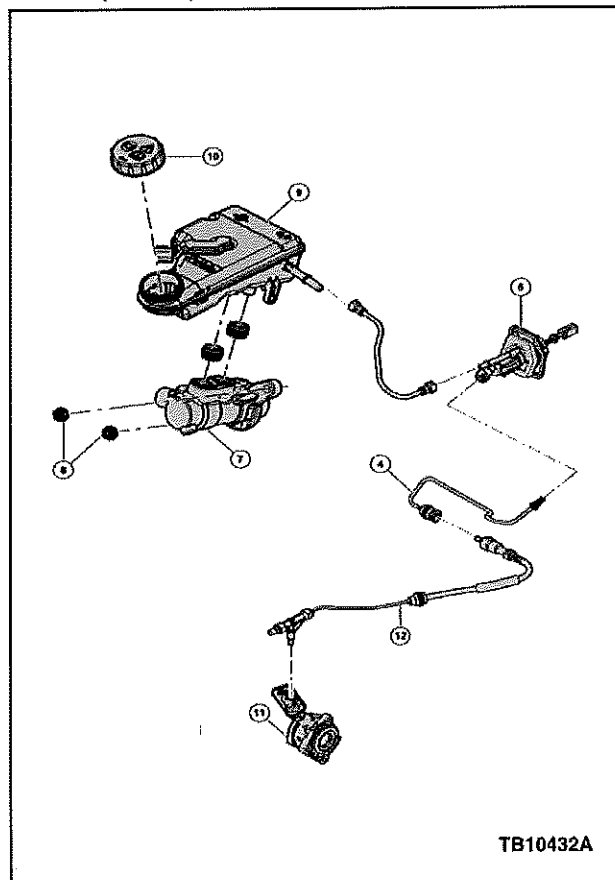

Figure 3 - Article 13-6-10
10. Replace the clutch slave cylinder hydraulic tube with revised service part. (Figure 3 - Item 12)